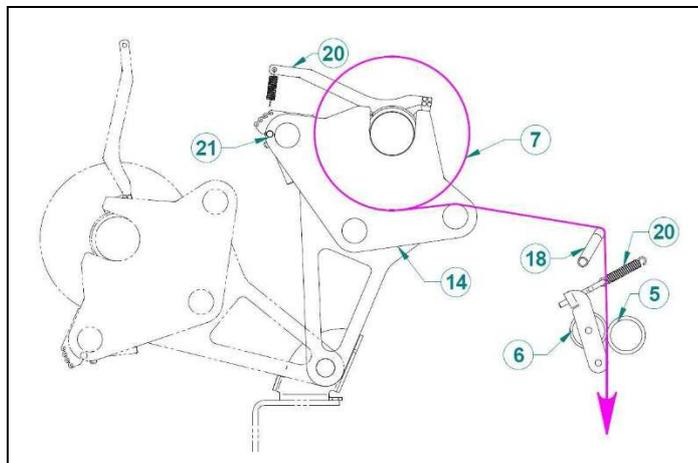
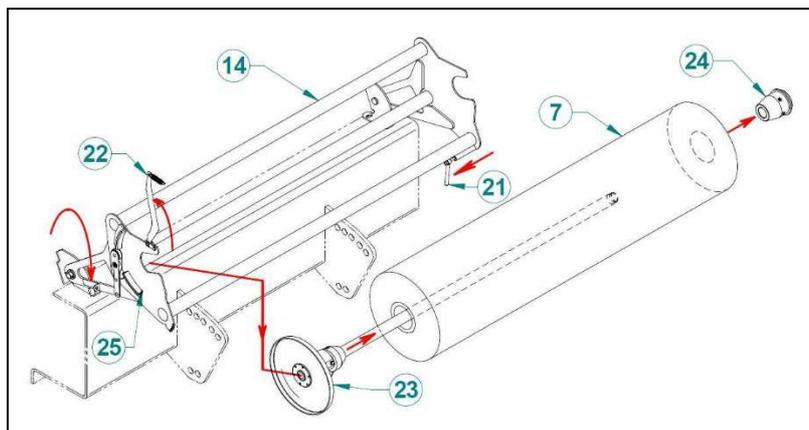
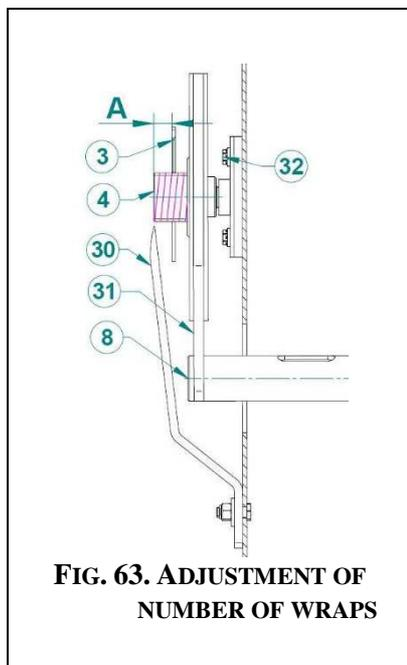

FIG. 61. NET GUIDING
FIG. 62. THE METHOD FOR INSTALLING THE NET
FIG. 63. ADJUSTMENT OF NUMBER OF WRAPS
The number of net bale wraps (size A - Fig. 63) is measured by the control lever (3), which slips from the thread of the rotating mounting (4). The mounting with the pulley is continuously powered by the lower cylinder (8). After the control lever (3) slips off completely from the mounting thread (4), it falls down sharply. The tensioned springs of the blade (9) and support cause the blade to hit against counter blade (10) and cut the net along its entire width.
- a) replace the end of the steel cable (11) controlling the levers of the bale wrapping mechanism on the left side of the Baler from the front pin (12) to the back pin (13) and secure it with a washer and a pin. Please remember to replace the end of the cable (11) back to the front pin (12) after switching to twine wrapping
- b) check the length of the control cable (11). With the back frame fully open, the blade of the locking lever (2) should be 4 mm away from the control hub (1) threading. In SIPMA PS 1221 FARMA PLUS, make sure that this distance does not exceed 6 mm, since it may cause damage of the blade support control components
- c) The lever (2) should be resting slightly (from the front) against the hub disc (1). Adjustment of the control cable (11) length is carried out using the turnbuckle installed on its end, which need to be countered after adjustment
- d) Please remember to check the proper installation of the locking lever (2) on the control hub (1) before proceeding to wrap bales with net. The lever (2) may be placed on the hub (1) by lifting the back frame of the Baler to the raised position or by manually pulling the lever (17). After baling more bales, this activity is carried out automatically at the moment of bale ejection.
- e) Install the net (Fig. 61 and Fig 62), carry out a cutting test and adjust the number of wraps (Fig. 63).
A diagram of a Baler with net wrapping unit is shown in Fig. 60, while a diagram of net guiding and installation - Fig. 61 and Fig. 62 respectively.
side sheet of the container and secure with the lever (6) and the spring (7). Secure the pipe with a spring (22). The end of the net should be placed through the net distribution bar (18) and inserted evenly (extended to its full width) between the pair of feed rollers (5). The angular position of the bar is a decisive factor regarding the efficiency of net distribution along the entire width of the bale. In such a case, the angle of the bar should be individually adjusted (by countering the nuts in the relevant bar positions) in order to achieve the best net wrapping effect. Periodically check the (27) tensioning so that the net brake disc (23) Fig. 62 is unrestricted in the parking position (the roll can be rotated by hand). The clearance between the brake disc (23) and the brake pads (25) should be approx. 1 mm.
The number of bale net wraps depends on the setpoint of the control lever (3) on the mounting (4) (Fig. 60, Fig. 63). Adjustment is done using the screw with lock nut setting the position of the control lever relative to the mounting. The relation between the number of net wraps and the lever settings is shown in Table 3: